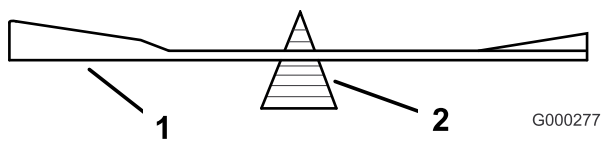
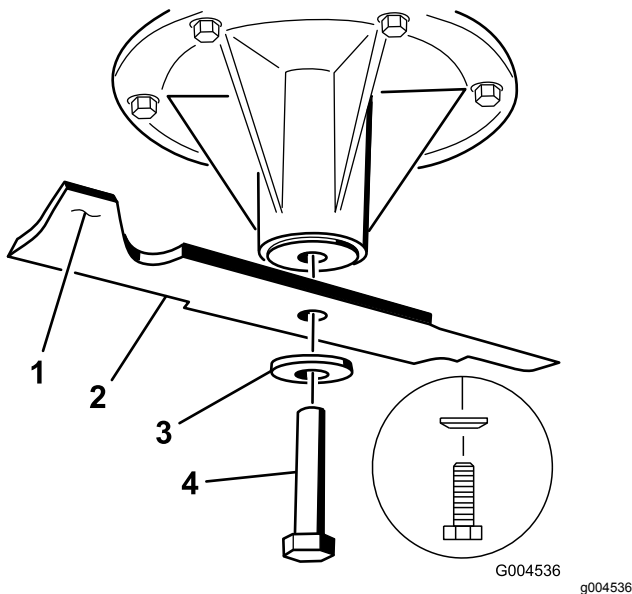

Figure 103
Figure 104
2. Check the balance of the blade by putting it on a blade balancer (Figure 103). If the blade stays in a horizontal position, the blade is balanced and can be used. If the blade is not balanced, file some metal off the end of the sail area only (Figure 104). Repeat this procedure until the blade is balanced.
1. Install the blade onto the spindle shaft (Figure 104).
2. Install the spring disk and the blade bolt. The spring disk cone must be installed toward the bolt head (Figure 104). Torque the blade bolt to 115 to 150 N-m (85 to 110 ft-lb).